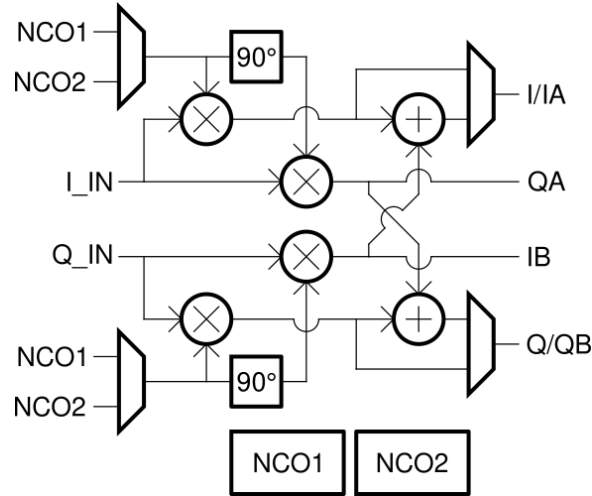

Figure 32: SD1148ET DDC.
Figure 32 shows the block diagram the DDC. It consists of two numerically controlled oscillators (NCOs), digital multipliers, adders, and multiplexers. It can be programmed for two modes of operation. Mode 1 provides two independent paths with a real input and a complex (IQ) output. Mode 2 is used when the two ADCs operate as an IQ pair. It accepts IQ input and